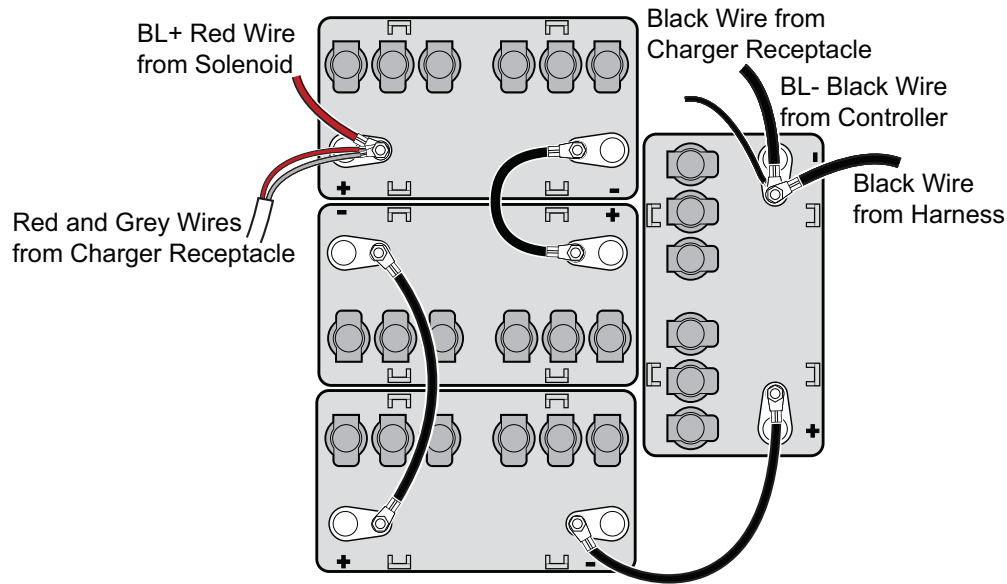

Fig. 29 Battery Connections
13. Carefully replace the wires on the battery terminals as shown (Ref. Fig. 29). Make sure to reconnect the main negative (-) battery cable, BL-, from the controller last.